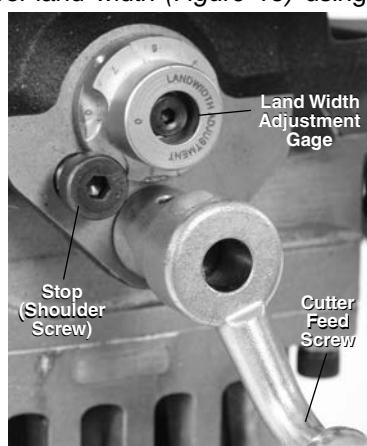

Figure 18 – Land Width Adjustment Gage Setting
- Set the desired bevel land width (*Figure 18*) using the land width adjustment gage. If set to "0" there will be no land on the end of the pipe. Each step on the land width adjustment gage is approximately a $\frac{1}{32}$ " (0.8 mm) different from the adjacent step. (1 ~ 0.03" (0.8 mm) land width, 2 ~ 0.06" (1.6 mm), etc.) Move the needed step of the gage so it aligns under the head of the stop.
- Using a smooth continuous clockwise rotation of the cutter feed screw (*Figure 18*); engage the cutter head into the work piece until the stop contacts the land width adjustment gage. Do not use cutting oil or coolant.